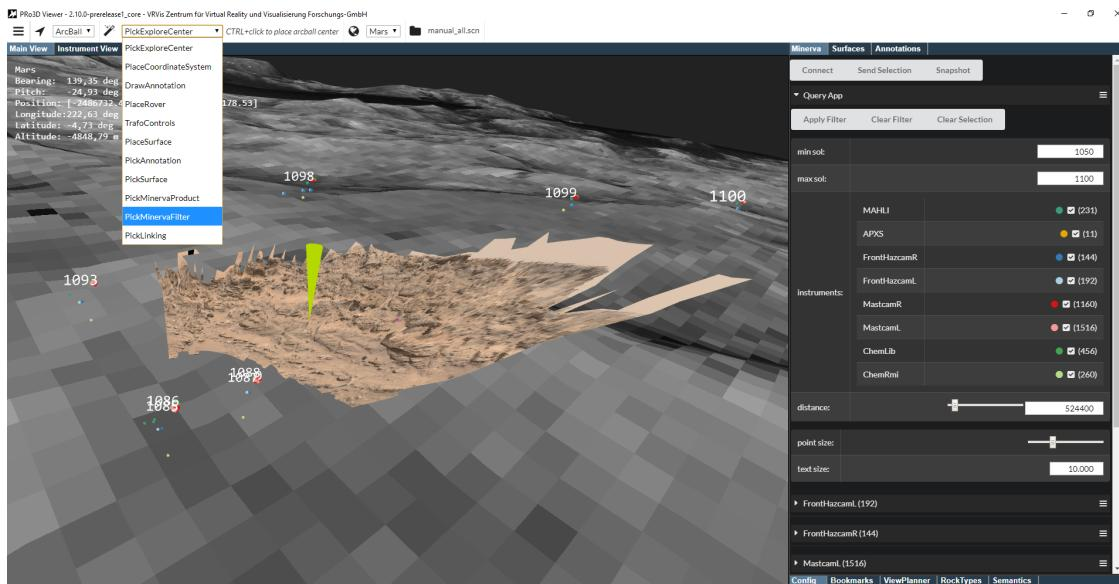

Figure 25: PickMinervaFilter
- **PickMinervaFilter:** Select “PickMinervaFilter” in the actions menu and press CTRL+LMB to pick a point on the surface. Then set a distance value with the distance slider in the Query App and click the “ApplyFilter” button. The products where the distance to the selected point is smaller than the selected distance in the Query App are shown (Figure 25).